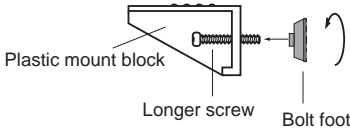

Fig.1
3. Rotating the longer screw and set it to the hole of the plastic mount block. Firmly attach the bolt foot rotating to the top of the screw. (See Fig. 1)